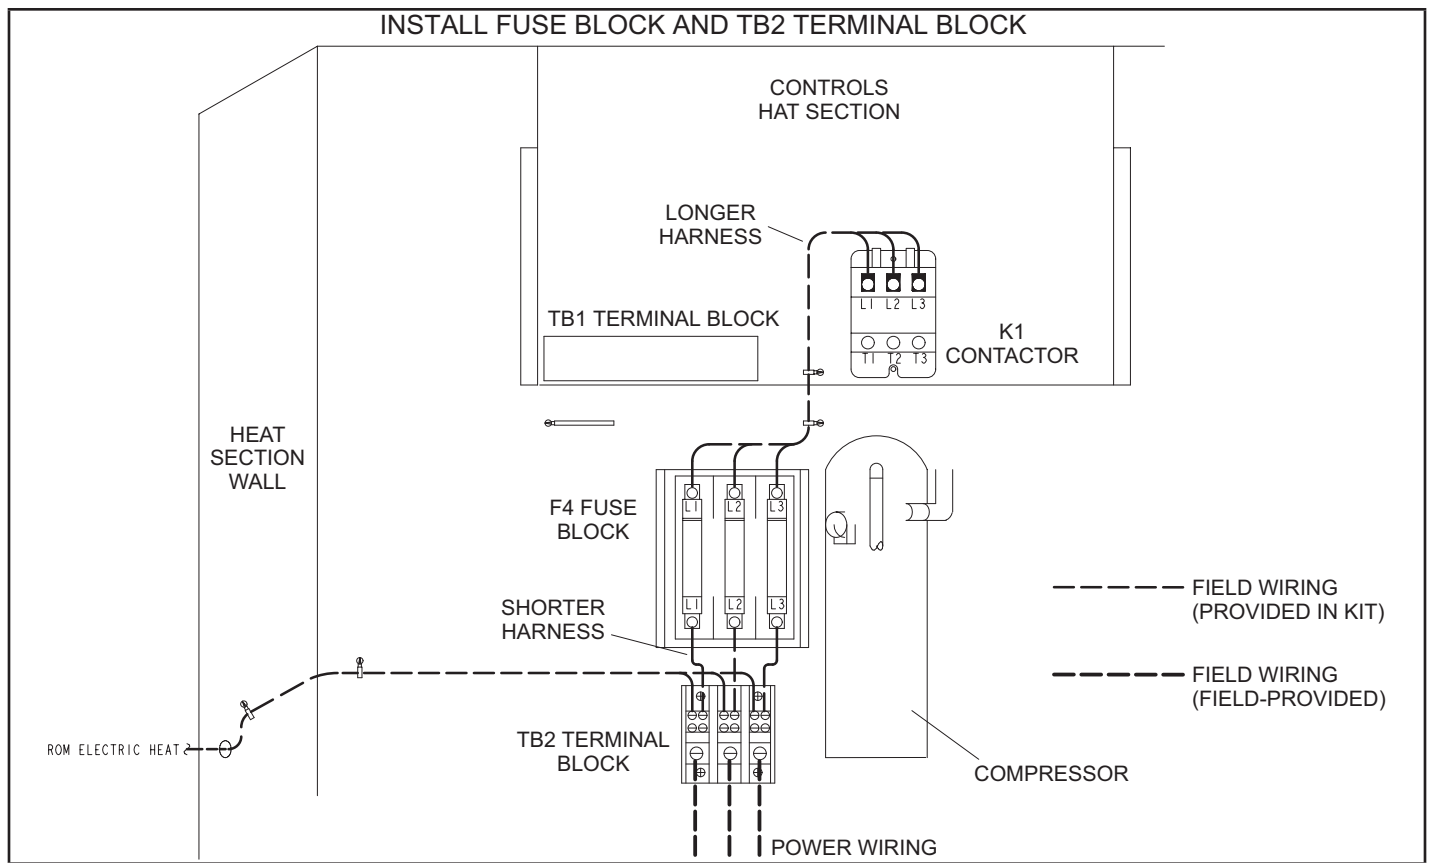

FIGURE 3
Wiring must conform to local codes and the current NEC/CEC. Refer closely to FIGURE 3, the field wiring diagram in this kit, and the following information: If heater is being installed in an existing unit, a change in power supply wiring may be required. Remove the original supply wires or disconnect at power source. Refer to heater nameplate for minimum circuit ampacity and maximum fuse size.
- 1 - Route power wires from electric heat assembly to control area. Connect wire to load side of TB2 terminal block. Refer to FIGURE 3.